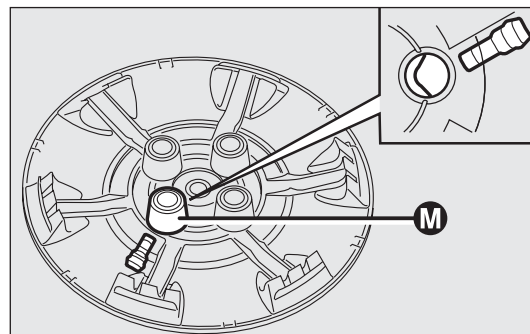

fig. 129
- ☐ fit the wheel cup making the symbol  coincide with the inflation valve and the bolt previously fastened to the hole M - fig. 129 (for Multijet engine versions) or fasten the wheel cup pressing till it fixes on the rim;